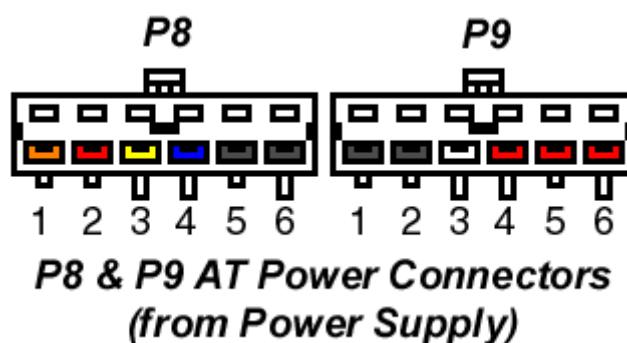

Figure 3. Connector¹².
22. You must take care, however, to make sure that no remaining unconnected motherboard pins exist between or on either side of the two connectors after you install them. A properly installed connector connects to and covers every motherboard power pin. If any power pins are showing on either side of the connectors, the entire connector assembly is installed incorrectly, which can result in catastrophic failure for the motherboard, including everything plugged into it at the time of power-up. Figure 3 shows the P8 and P9 connectors (sometimes also called P1/P2) in their proper orientations when connecting¹¹.